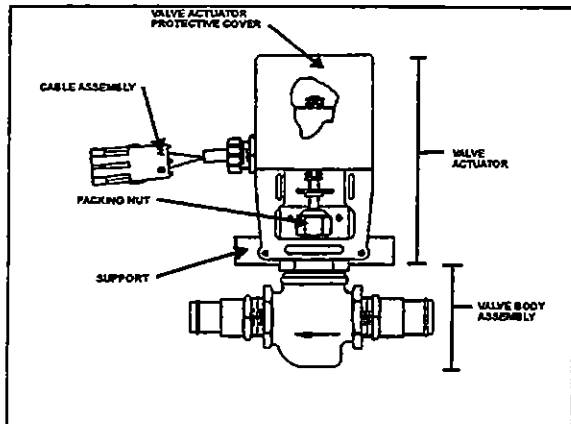

Figure 35: Main Hot Water Solenoid Valve 22054
12.2.2 Valve Actuator Removal (Figure 35)